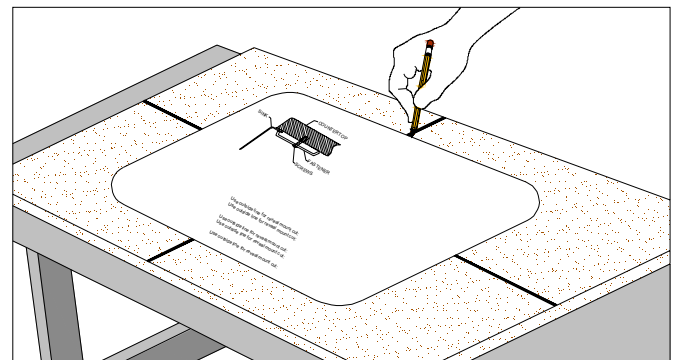

Figure 4C
- Align paper template with penciled cross hairs on the MDF or phenolic board template material and trace outer edge. (FIG. 4C).